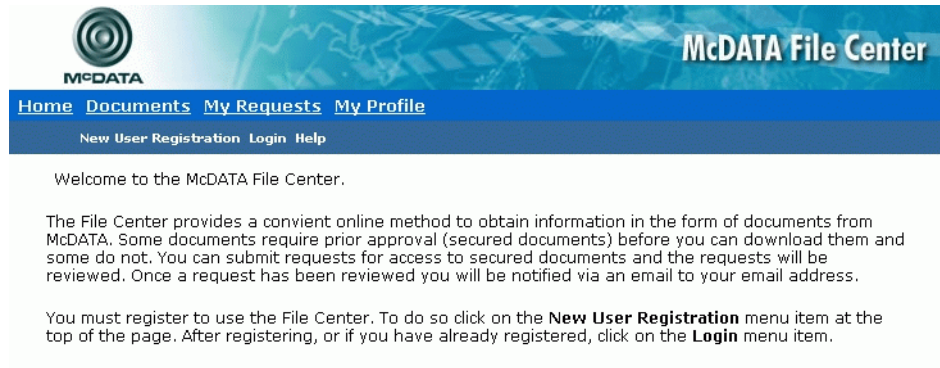

Figure 4-72 McDATA File Center Home Page
- a. At a PC with Internet access, open the File Center home page (Figure 4-72). The uniform resource locator (URL) is <http://central.mcddata.com>.